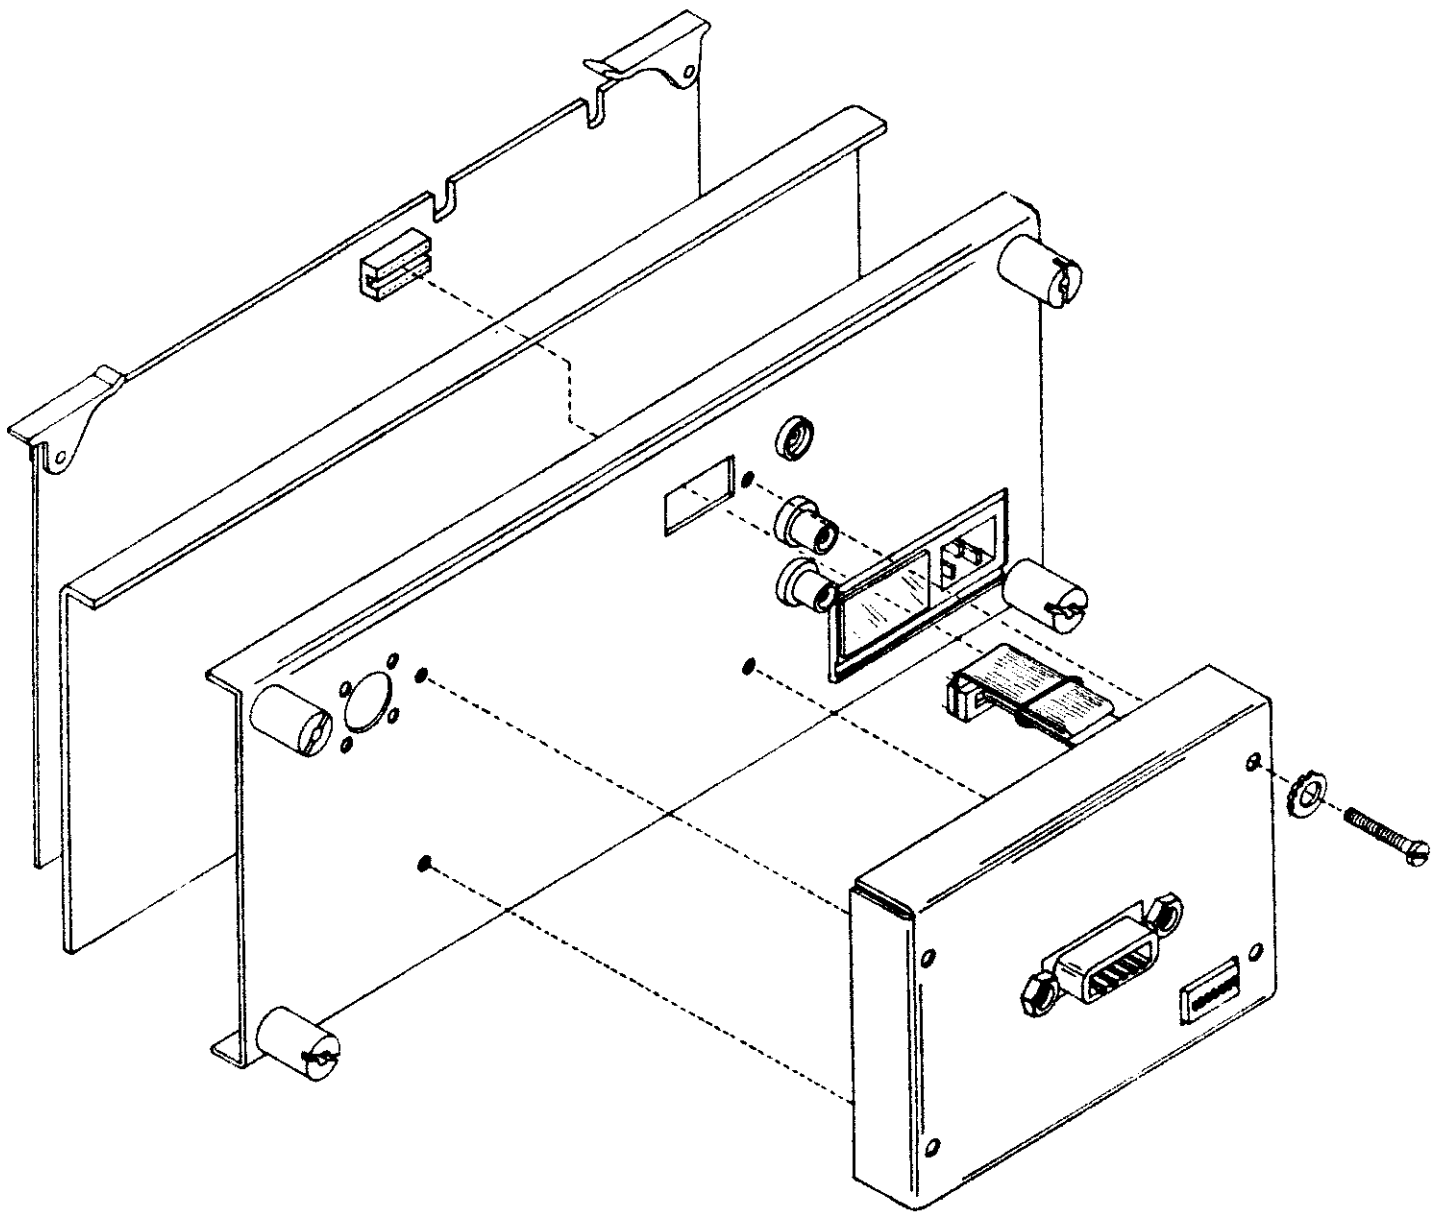

Figure 2-1. Option -01 Installation
- b. Insert the 16-pin ribbon connector into the socket provided on the interface board assembly. See Figure 2-1.